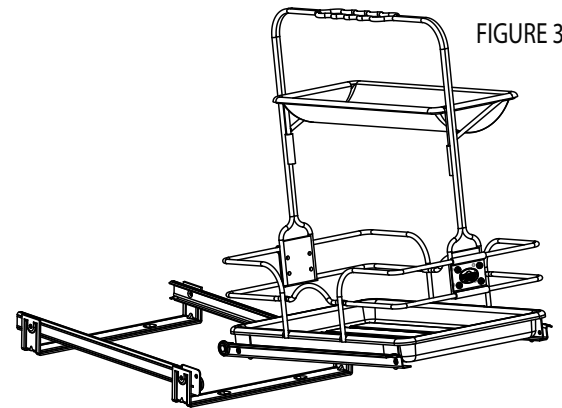

FIGURE 3
Step 3: Place assembled unit in the slide system (as shown in Figure 3), and place inside the cabinet.